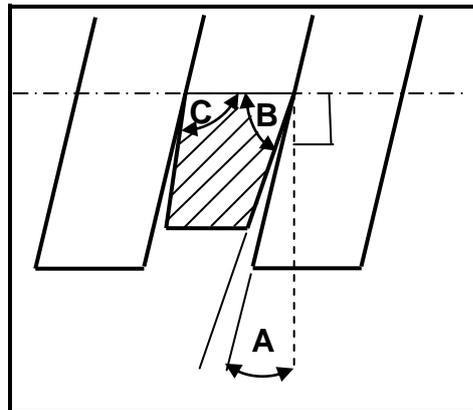

FIGURE 10.3
- 10.3 FIGURE 10.3 below shows a square cutting tool used to cut a left-hand square thread.